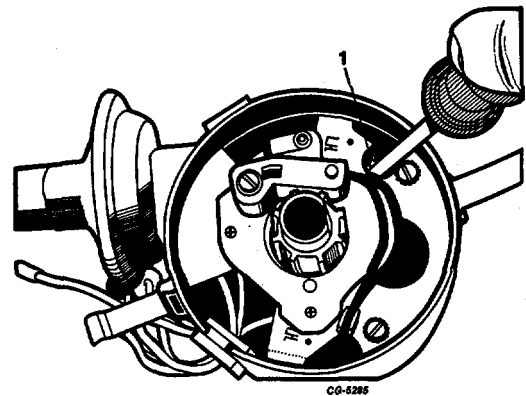

Fig. 44 Adjusting Advance Spring Tension
- b. Increase distributor speed, pausing at each specified test speed to note the amount of advance that is occurring. If advance at specified test speeds is not within specified limits, adjust advance spring tension by bending the spring posts (Figure 44). Bend post(s) toward distributor shaft to decrease tension (increase advance) and away from shaft to increase tension (decrease advance).